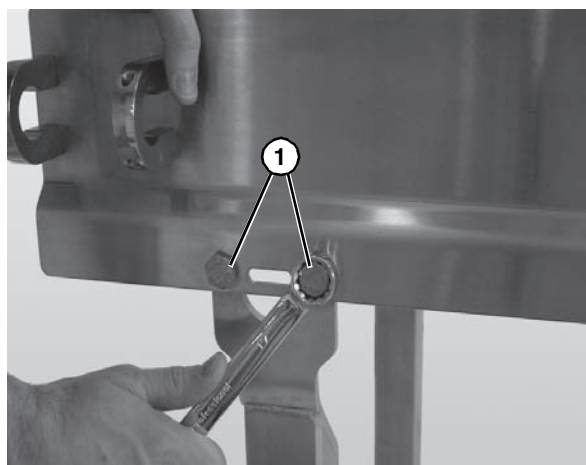

Figure 10
- Attach the stands to the frame (**Figure 10**).
- Tighten hex screws (**Figure 10, item 1**).